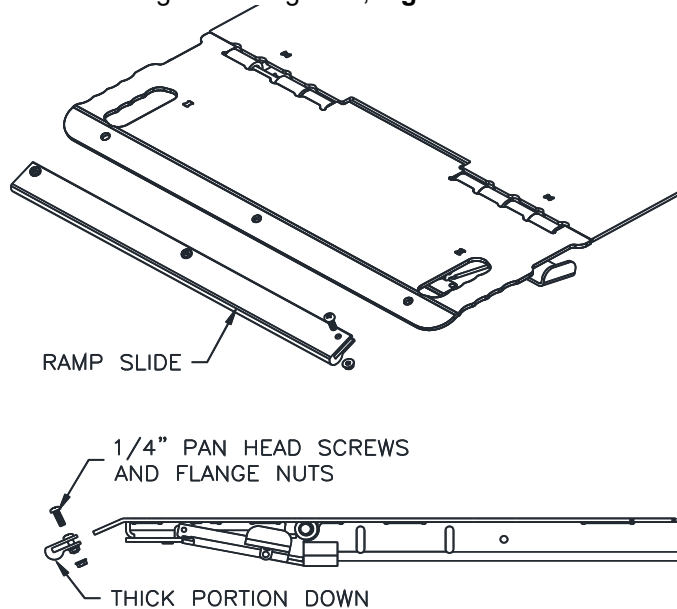

Fig. 11 INSTALLING THE RAMP SIDES
12. Install a Ramp Slide to the bottom of each of the four Ramps. Orient the thick lobe portion of the Ramp Slide down, and secure it with three (3) 1/4" Phillips Pan Head Screws and Flanged Locking Nuts, **Fig. 11**.